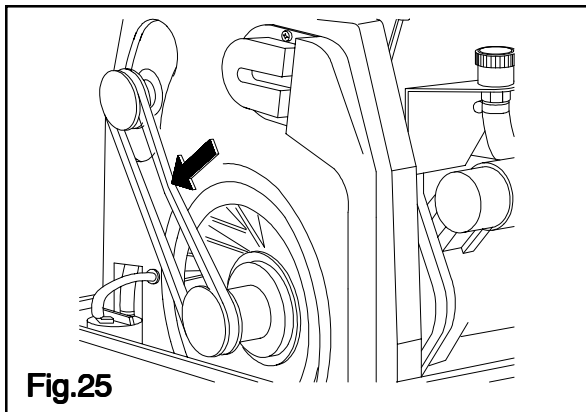

Fig.25
-Press the belt with approx. 10Kg of pressure and to be sure that bending is not more than 0,5 cm (Fig.25).